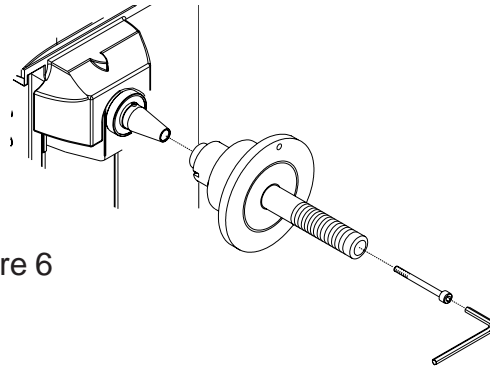

Figure 6
A. Mount the tapered adapter onto the tapered arbor of the balancer. Tighten firmly using supplied 14mm hex wrench. (Figure 6).